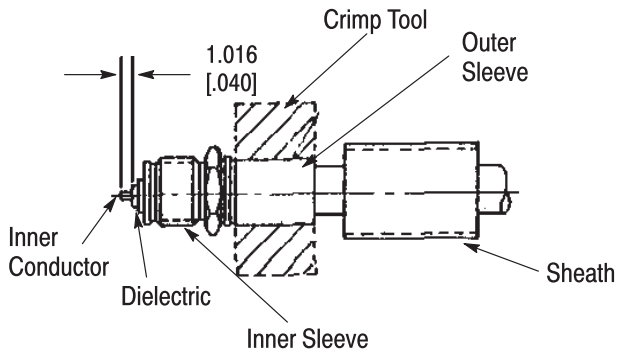

Figure 4
8. Hold the cable firmly and crimp the outer sleeve to the braid using 2.67 [.105] hex die cavity. See Figure 4.